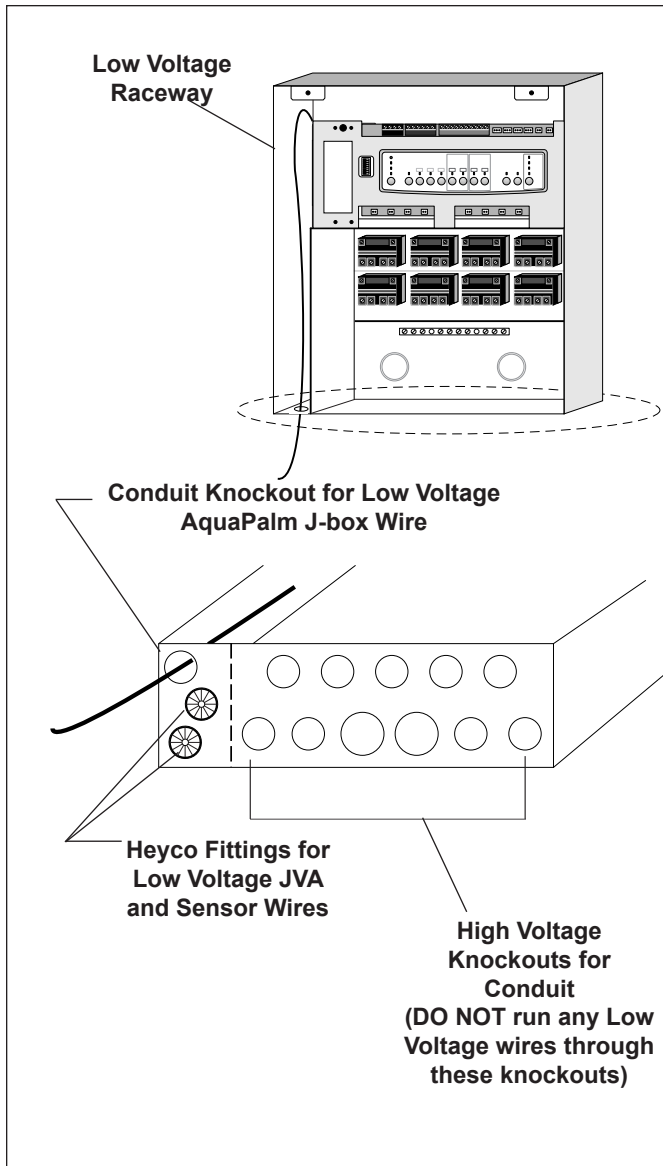

Figure 3. AquaPalm J-Box Cable Connection to Power Center PCB
2. Pull cable through the knockout with the Heyco fitting and into the low voltage compartment (see Figure 3).
4. Strip each wire 1/4" and connect to the red, 4-pin connector on the Power Center PCB. A multiplex kit may be required if there are more than two cables running to a red, 4-pin connector (see Figure 3) on the PCB.